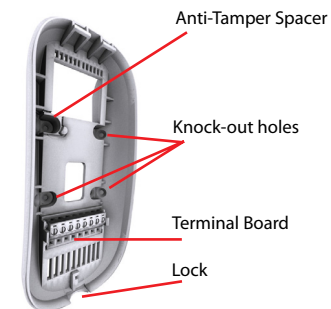

Figure 3 – HD77 Camera Back Plate
- Run the cable(s) (2) through the wall plate (1). Secure the wall plate to the wall.
- Run the cable through the bottom of the swivel hinge housing (3), swivel hinge (4), and adapter plate (5).
- Determine the HD77 camera angle of view and secure the angle by attaching the angle bracket (6) to the adaptor plate and inserting a pan head screw #6-32 through the angle bracket and adaptor plate and attaching them to the swivel hinge.
- Mount the HD77 camera back panel (7) to the swivel bracket with a screw through each knock out hole and through the anti-tamper spacer (see figure 3).